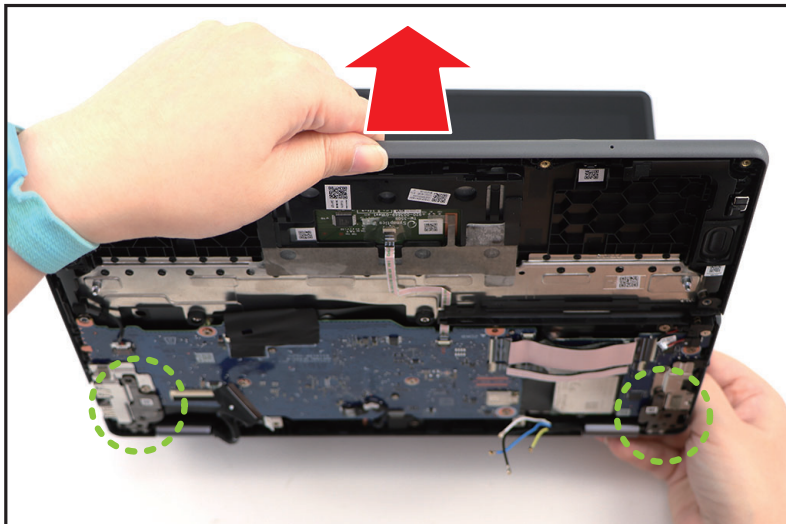

Figure 1-22. LCD Module Removal
7. Disengage the LCD hinges from the guide pins (highlighted with the green circles) on the top assembly. Then remove the top assembly away from the LCD module (Figure 1-22).